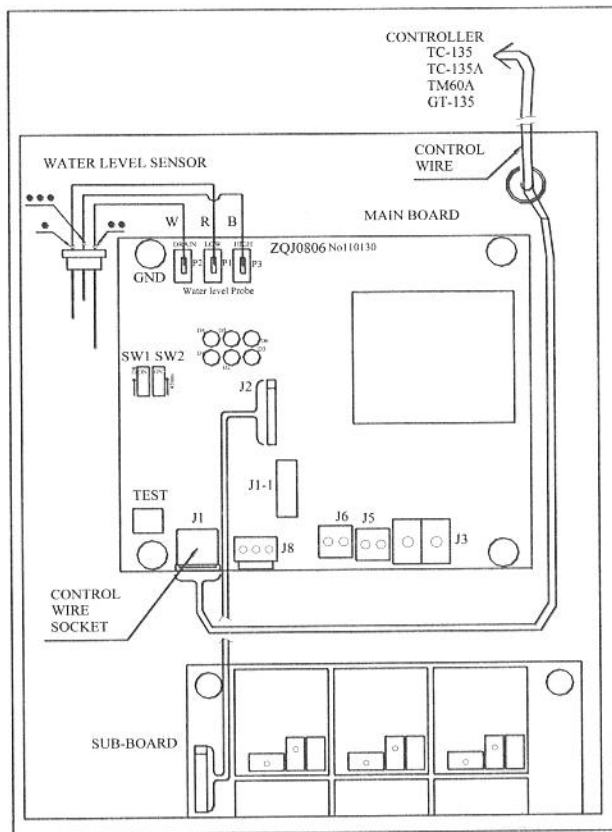

Figure 15
8. **Replace the water level sensor:** Switch off the steam generator and remove the cover when the generator completely cools down. Carefully label all wires for different colors and different plugs. Take off all the wires, screw out the water level sensor, and screw in the new water level sensor until the bottom of the plastic nut reaches the same height as the old one. Finally reconnect the wires (all wires must be plugged back to the right place, refer to figure 15,16).